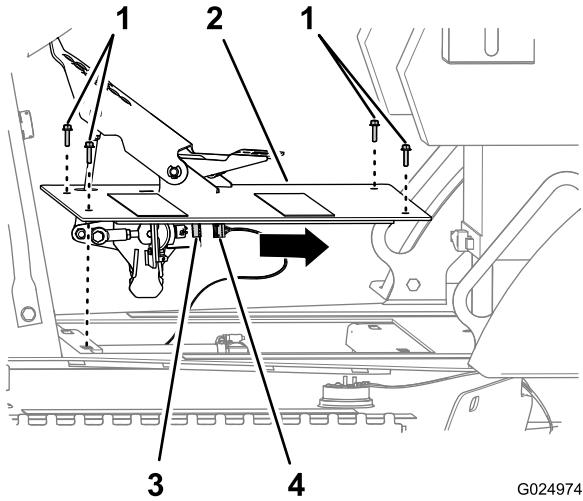

Figure 110
1. Remove the 4 hex-flanged head bolts that secure the traction-pedal assembly to the chassis of the machine (Figure 110).
2. Disconnect the 6-socket connector of the machine harness from the 6-pin connector of the traction-pedal sensor (Figure 110).
3. Remove the traction-pedal assembly from the machine (Figure 110).
1. Connect the 6-socket connector of the machine harness to the 6-pin connector of the traction-pedal sensor (Figure 110).
2. Align the holes in the plate of the traction-pedal assembly with the holes in the chassis of the machine (Figure 110).
3. Secure the traction-pedal assembly to the chassis of the machine with the 4 hex-flanged head bolts (6 x 25 mm); refer to Figure 110.